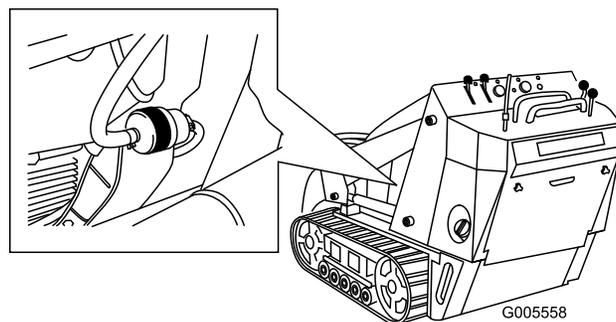

Figure 40
4. Clamp the fuel lines on both sides of the fuel filter (Figure 40).
5. Squeeze the ends of the hose clamps together and slide them away from the filter (Figure 40).